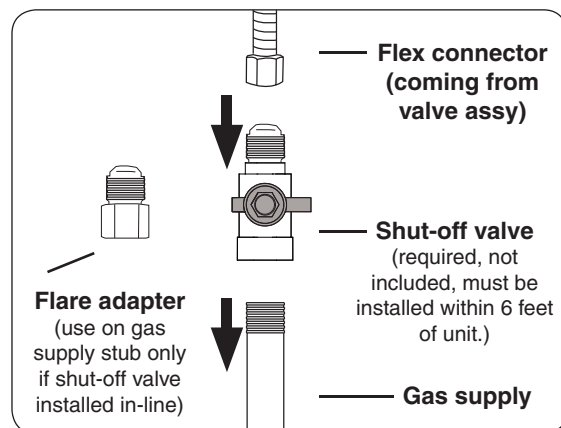

Fig. 29-3 Connecting to a gas line
- Connect the flex connector to the shut-off valve (see Fig. 29-3). Tighten securely.
- Install the supplied flare adapter to the gas supply using a pipe joint compound resistant to all gasses (see Fig. 29-3). Tighten securely.
- Connect the flex connector to the flare adapter (see Fig. 29-3). Tighten securely.